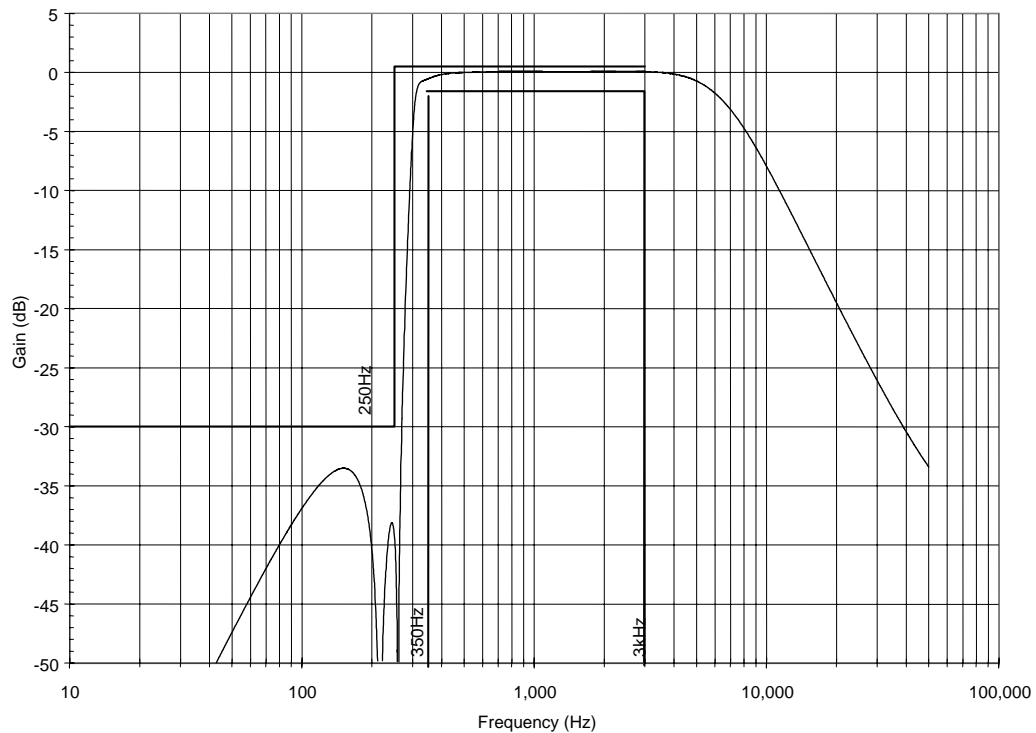

Figure 5: Audio Band-Pass Filter Frequency Response
6. See filter response (Figure 5).